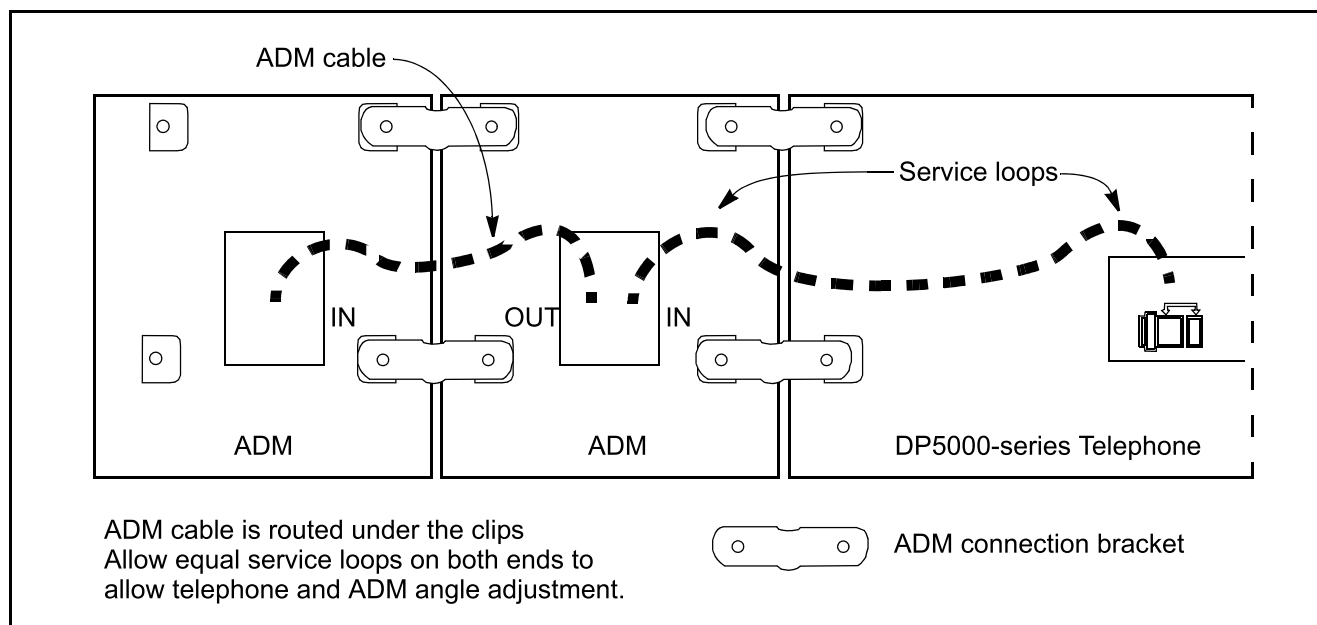

Figure 4 IP5000-Series ADM Connection
2. Use the brackets and screws included in the box to attach the ADM base to the telephone base. Refer to Figure 4.
3. Use the cable included with the ADM to connect from the telephone ADM connector to the ADM "IN" connector. If a second ADM is attached, that cable runs from the first ADM "OUT" connector to the second ADM "IN" connector. Refer to Figure 4.